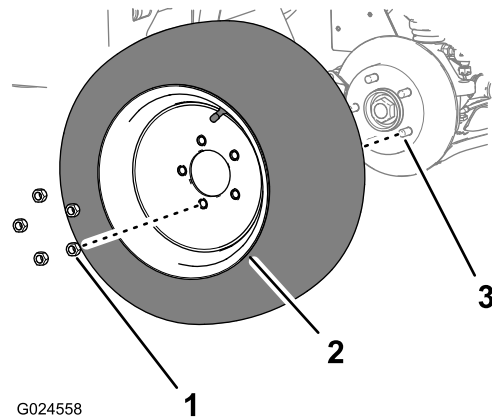

Figure 16
1. Remove the 5 lug nuts that secure the front wheel to the wheel hub (Figure 16).
2. Remove the wheel from the wheel hub (Figure 16).